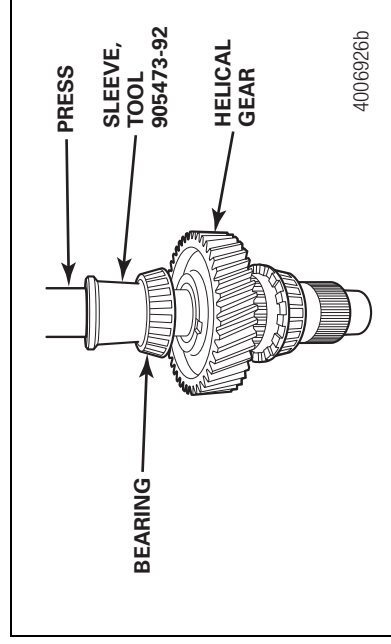

Figure 6.4
8. Use tool number 905473-92 to install the bearing onto the top of the output shaft with the small tapered end UP. Use a press and sleeve to push the bearing DOWN onto the output shaft until it is fully seated. Refer to Section 13 for tool drawings. Press down only on the inner race of the bearing during installation. Use a 0.002-inch shim or feeler gauge to check that the bearing is correctly seated. Figure 6.4.